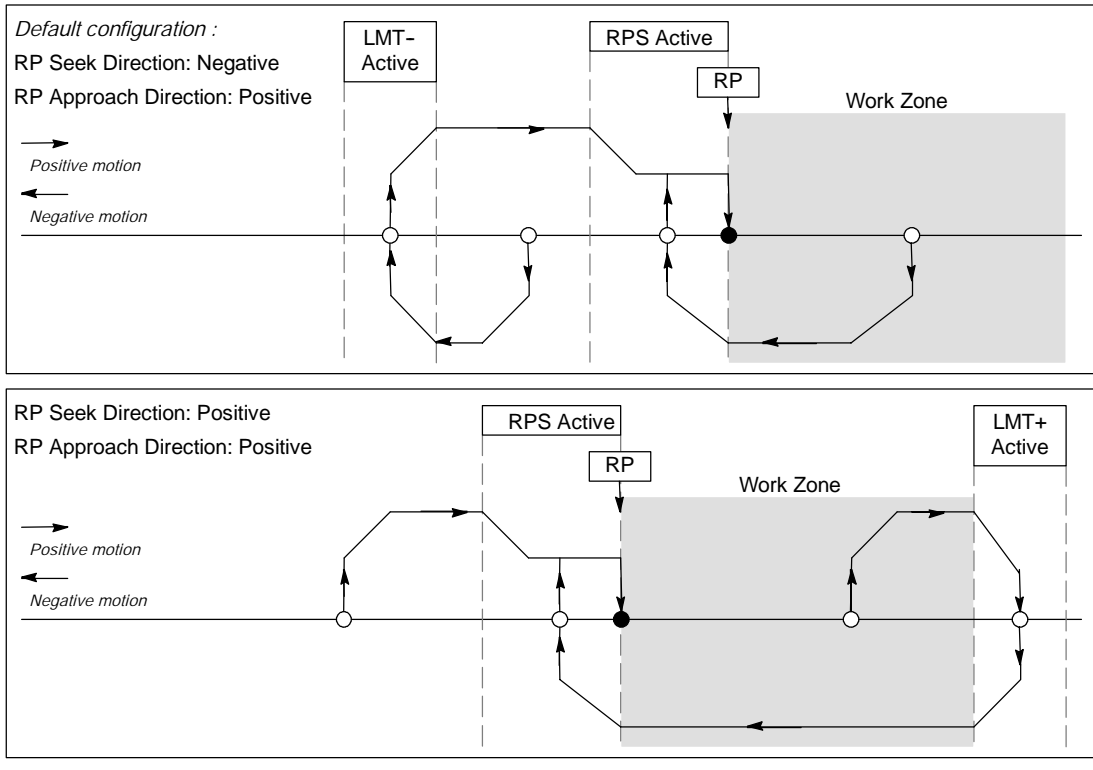

Figure 9-14 RP Seek Mode 1
For more information about the different RP seek sequences for the Position module, see Figures 9-14 through 9-17 on pages 264 through 265.
- Figure 9-14 shows two of the options for RP seek mode 1. This mode locates the RP where the RPS input goes active on the approach from the work zone side.